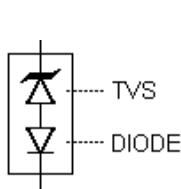
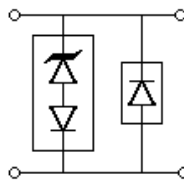
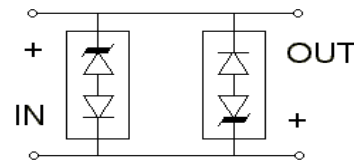

FIGURE 4
FIGURE 5
FIGURE 6
The TVS low capacitance device configuration is shown in Figure 4. As a further option for unidirectional applications, an additional low capacitance rectifier diode may be used in parallel in the same polarity direction as the TVS as shown in Figure 5. In applications where random high voltage transients occur, this will prevent reverse transients from damaging the internal low capacitance rectifier diode and also provide a low voltage conducting direction. The added rectifier diode should be of similar low capacitance and also have a higher reverse voltage rating than the TVS clamping voltage V_C . The Microsemi recommended rectifier part number for the application in Figure 5 is the "SMBJLCR80" or "SMBGLCR80" depending on the terminal configuration desired. If using two (2) low capacitance TVS devices in anti-parallel for bidirectional applications, this added protective feature for both directions (including the reverse of each rectifier diode) is inherently provided in Figure 6. The unidirectional configurations in Figure 5 and 6 will both result in twice the capacitance of Figure 4.